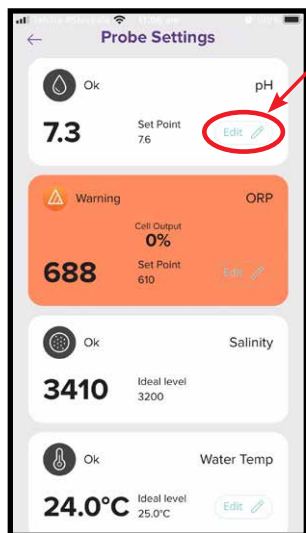

Figure 8.24
- In the probe setting menu, press “edit” (refer figure 8.24)